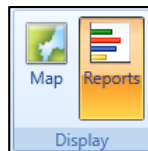

Figure 5-43 Metric Results Tab – Display Ribbon Group
1. Click the *Reports* button in the *Display* ribbon group (Figure 5-43).